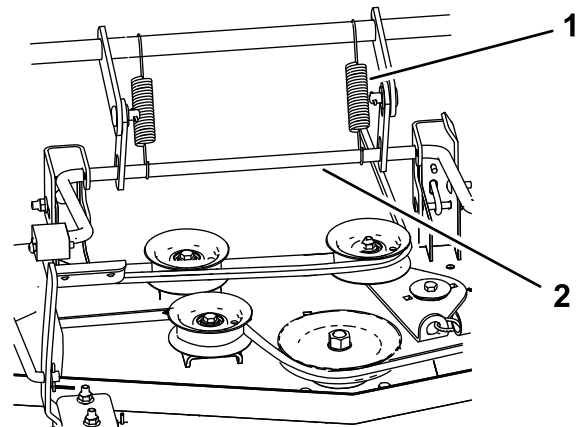

Figure 71
6. For 60-inch decks, remove the 2 deck-lift springs (Figure 71).
6. For 60-inch decks, install the 2 deck-lift springs (Figure 71).